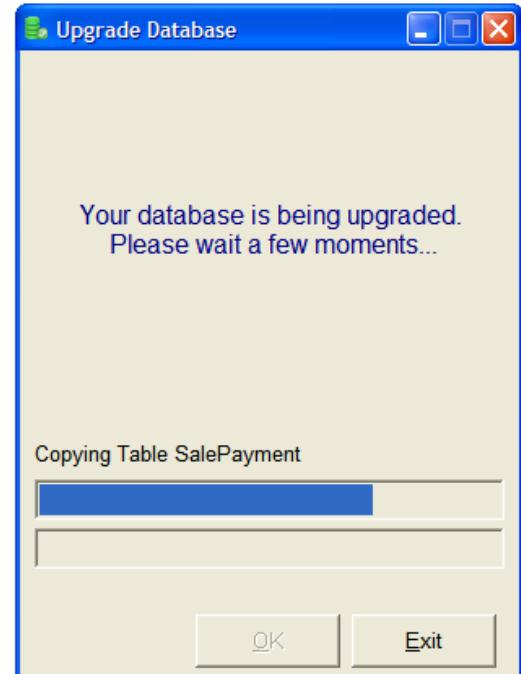

Figure 426
12. Once the Database Layout has been updated the 'Upgrade Database' window will appear (see Figure 426).